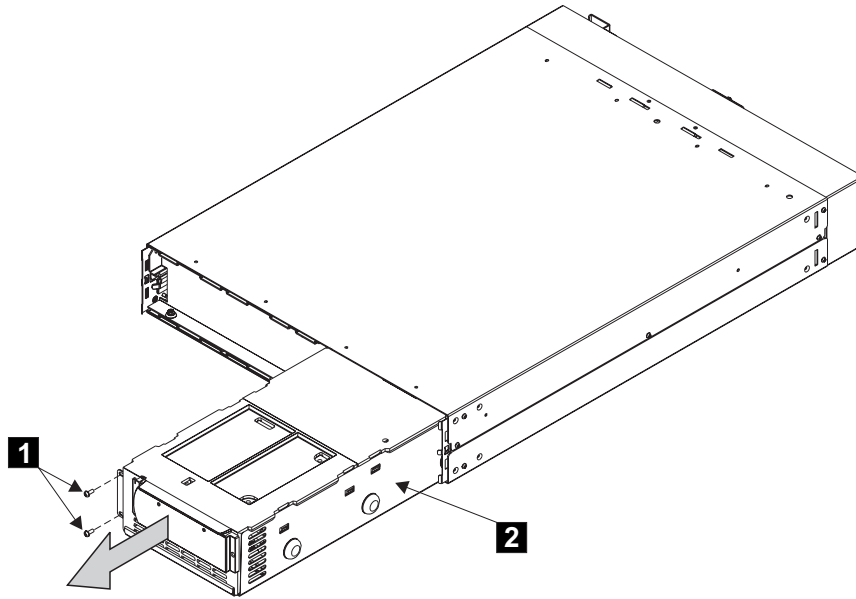

Figure 39. Removing the 2145 UPS electronics assembly
3. Remove the two screws **1** (Figure 39 on page 62).